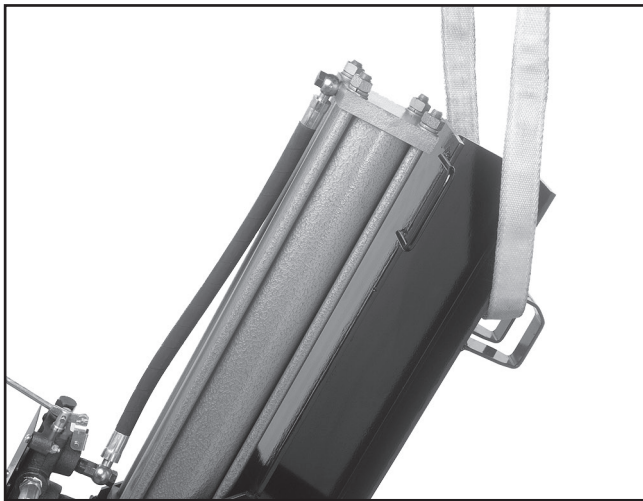

Figure 9. Main lifting location.
10. This cylinder and beam assembly is top heavy, so loop a lifting strap rated for at least 1000 lbs through the front beam lock eyes at the location shown in **Figure 9**.